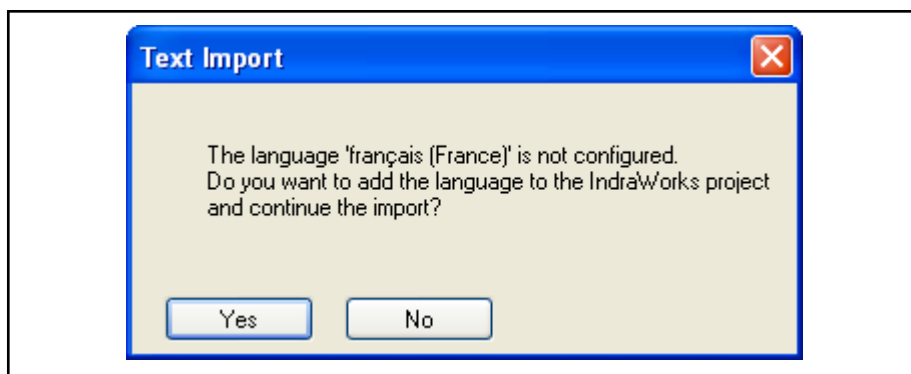

Fig. 4-42: Query when importing a CSV file
- If the file to be imported contains texts in other languages, select whether to import these new languages and thus whether to add them to the IndraWorks project (see fig. 4-41 "Query when importing an XML file" on page 61 and fig. 4-42 "Query when importing a CSV file" on page 62).